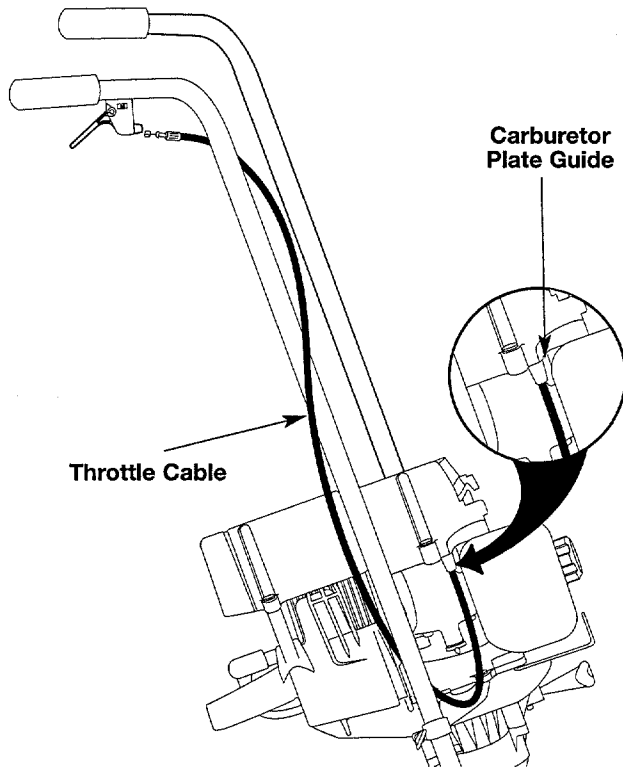

Figure 9
1. Wrap the throttle wire once around the handlebar. See Figure 9.
**NOTE:** Ensure the throttle cable is fitting into the guide at the carburetor plate on the engine. If it does not, the throttle will not work properly. See Figure 9.